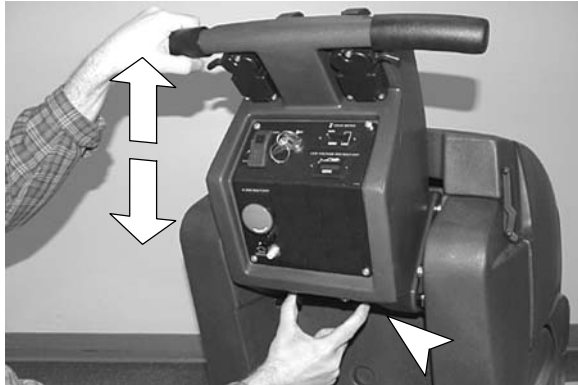

FIG. 7
1. Locate the two spring loaded levers below the console (Figure 7).
2. Squeeze the levers together and lift or lower control grips to a comfortable operating height (Figure 7).